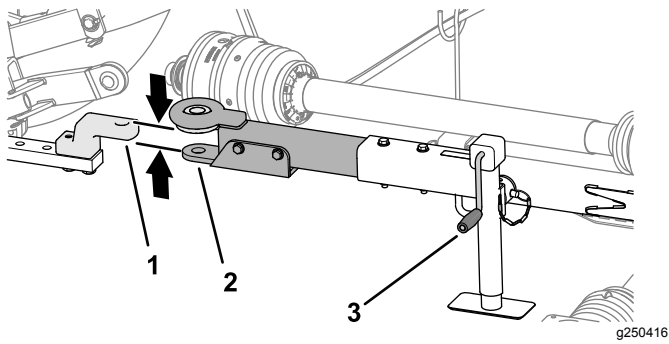

Figure 22
1. Use jack handle to raise or lower the tow bar jack and align the tow bar to the drawbar or pintle hitch (Figure 22).
3. Align the drawbar or pintle hitch of the tow vehicle with the tow bar of the mower (Figure 22).